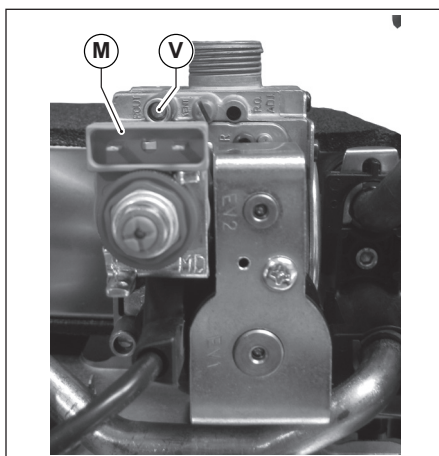

Fig. 25 Pressure testing point
- Connect a pressure gauge to pressure testing point **V** (see Fig. 25 Pressure testing point ).